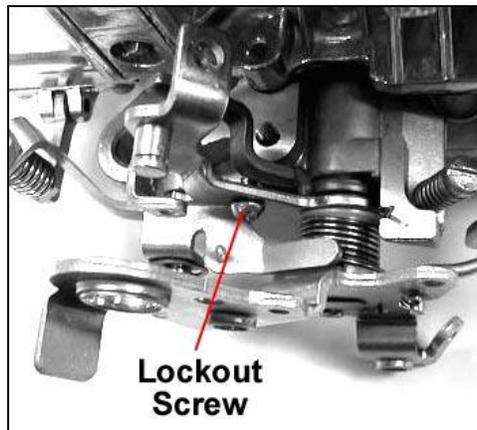

Figure 2
3. Remove the lock out screw from the kickdown lever (Figure 2).